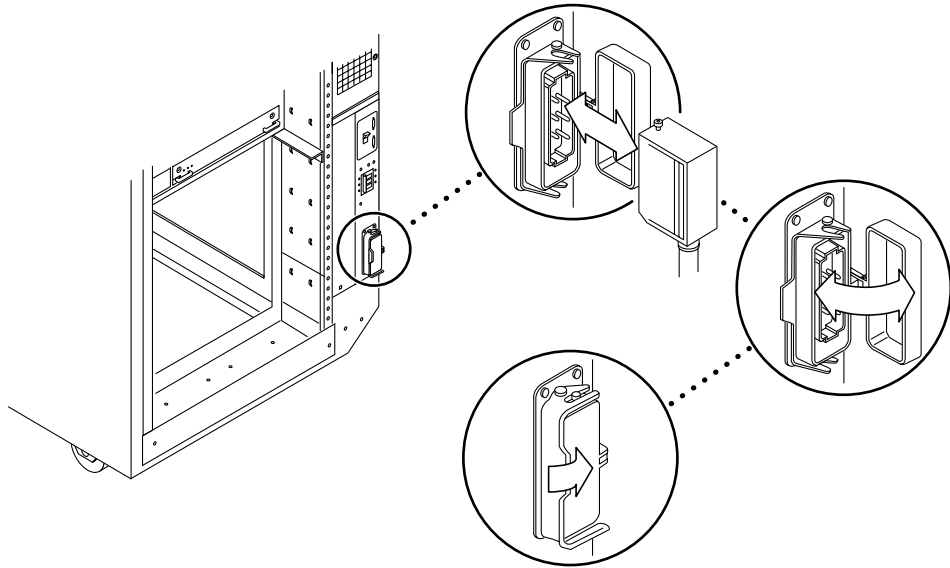

FIGURE 4-4 Removing and Replacing the AC Input Cable
2. **Disconnect the AC power cord from the power socket (FIGURE 4-4).**
- 2. Connect the power cord to the power socket (FIGURE 4-4).**